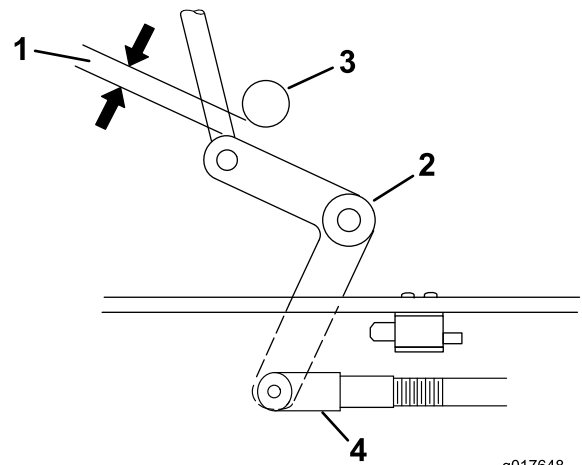

Figure 47
4. Adjust the linkage length to where the lower end of the bellcrank just clears the axle-support gusset (Figure 47).
9. Loosen the nut against the yoke (Figure 47).